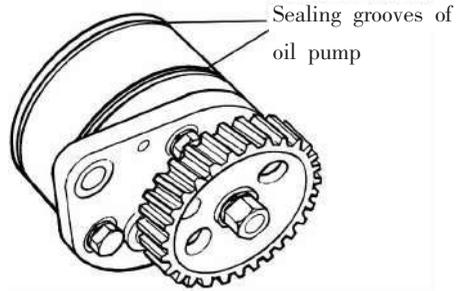

Fig 5-35 Sealing Grooves of Oil Pump
4.2 Insert O-ring before installing oil pump, coat some oil on pump, tighten bolts, move gear freely without block (see Fig 5-35).